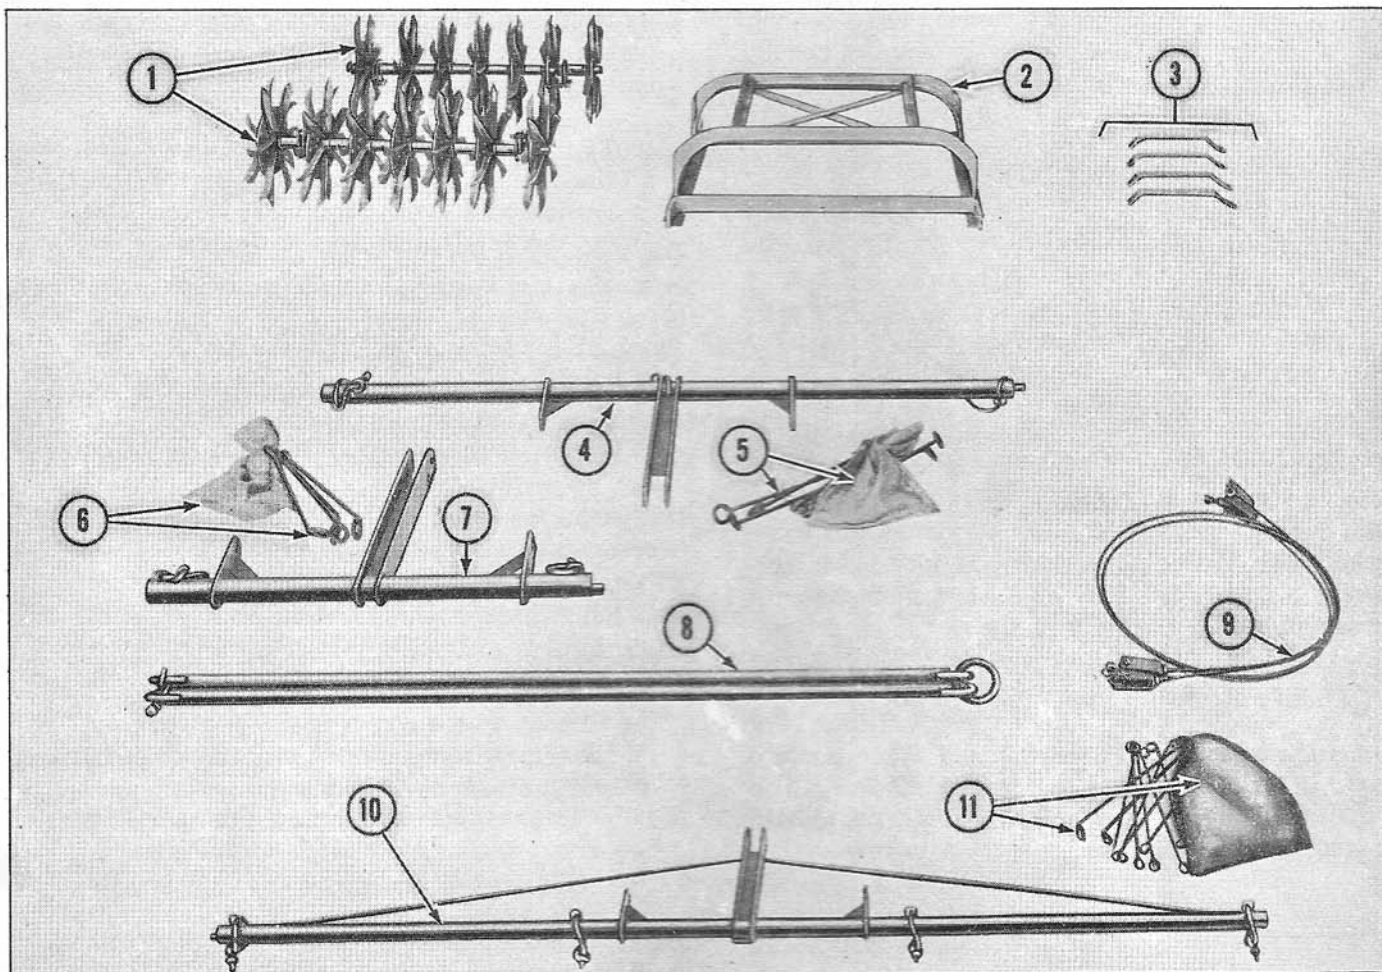

Figure 2
The components of the Ford Rotary Hoe are bundled for shipment as shown in Figure 2. Check the shipment against Figure 2, and the following list for the model concerned, to make certain all parts are received. An A & O Manual is included in the bag of hardware with each lift type hitch and taped to one of the tubes on each pull type hitch.
2. On the six section rotary hoe, attach the adapter cables (9), Figure 2, to the pull type